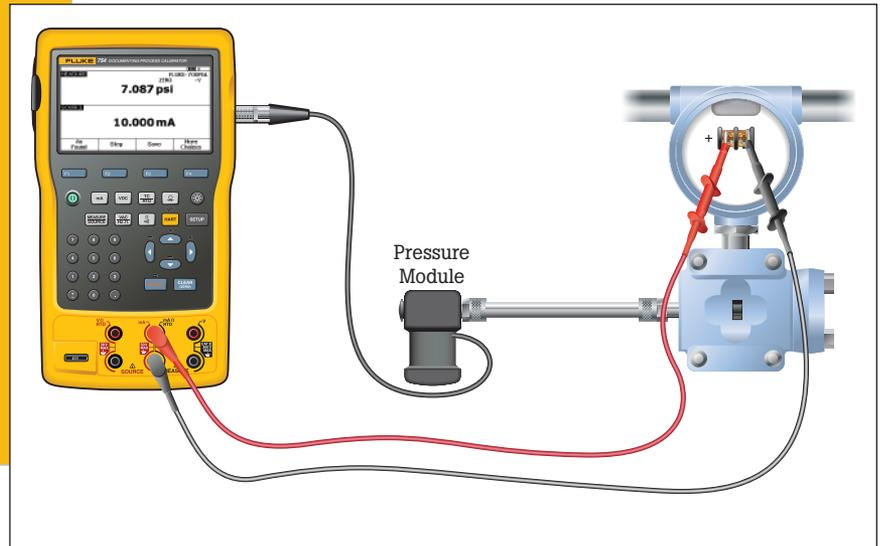

Figure 12.
1. Connect the pressure module to the DPC. Connect the output of the I to P to the input of the pressure module. If you are using a differential pressure module, make sure (for this example) that it is a 15 PSI module and connect to the input labeled "H" (Figure 12).
2. Connect from the center two banana type connections of the DPC to the input of the I to P where control current is supplied (Figure 12).